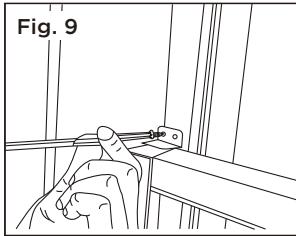

Fig. 9
- C. Secure lower sash in place by attaching the sash lock with the 3/4" (19 mm) or 1/2" (12.7 mm) screw as shown (Fig. 9).